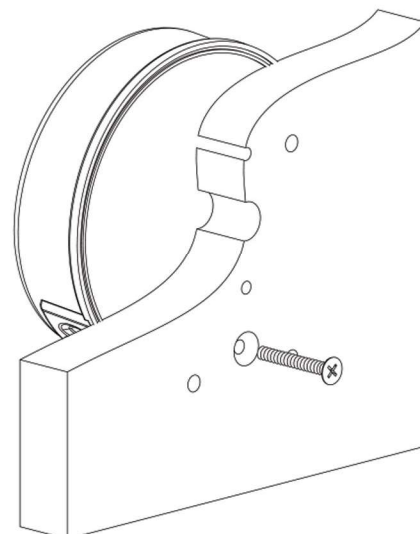

Fig. 5
4. Slide the entrypad into the mounting screws until a click is heard. The entrypad should be locked into place and should not move in either direction. Make sure that the cable will not rub or tangle on the mounting screws. It is also very important make sure the cable is not crimped or folded against itself under the Entry pad as you prepare to mount the entrypad to the safe front door or plate. (Fig. 5)
5. Secure the Entrypad: Install a M4 screw at the bottom from inside safe, as shown. The Entrypad can't be capable of being removed from outside. Proper screw and installation method should be adopted to avoid being interfered with the Springbolt Lock Body. (Fig. 5)